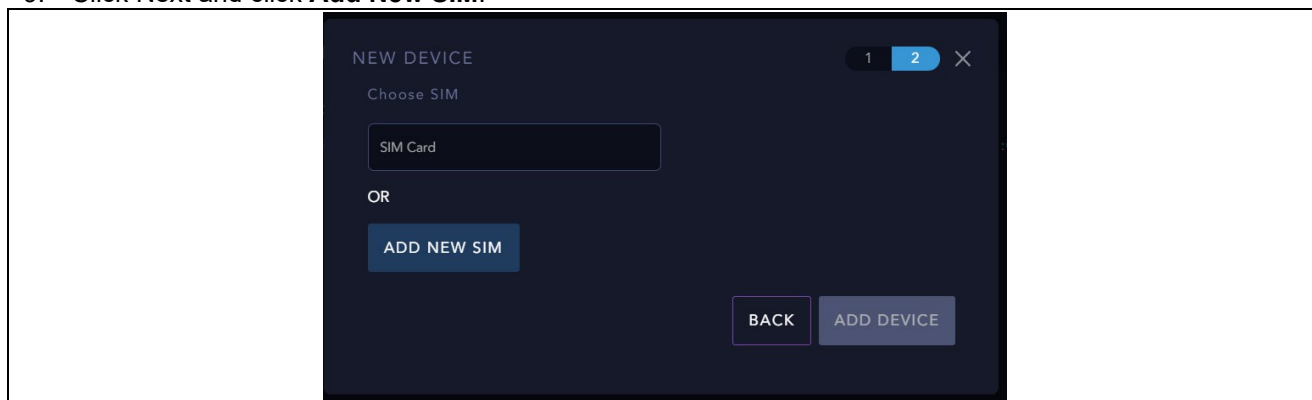

Figure 14. Activating the SIM card on MicroAI Launchpad
- SIM cards cannot be activated more than once. If a SIM card has been activated, the SIM card activation will fail when trying to add a new SIM (see Figure 14). To verify whether the SIM card has already been activated, please contact MicroAI support through <https://renesas.micro.ai> by logging into your account and clicking on Contact Support in the dropdown menu or at the bottom of the home page.